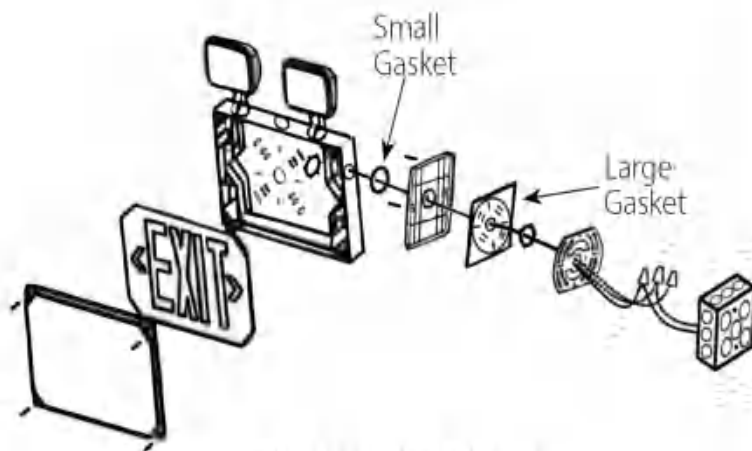

Figure 2 - Wall Mount
- Feed the power supply through knockout, pipe, and metal mounting plate, as seen in "Figure 2 - Wall Mount." Direct input wires along walls of the fixture to protect the wires and prevent shadowing.